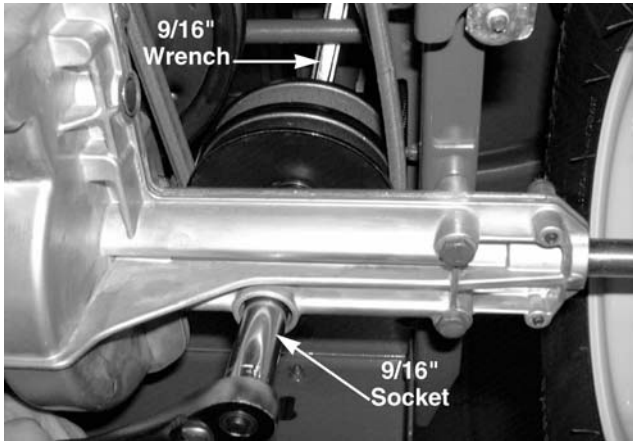

Figure 9-22
1. Remove the hex bolt and lock nut securing the variable-speed pulley to the transmission using a 9/16" socket and a 9/16" wrench. See Figure 9-22.